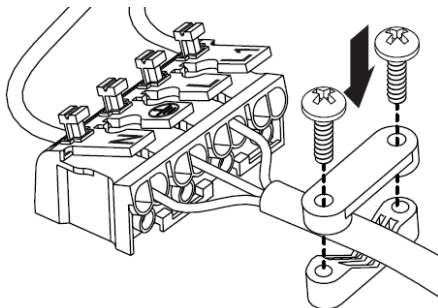

Fig. 3
- Secure the mains cable under the cable clamp and refit the terminal cover (see Fig. 3)